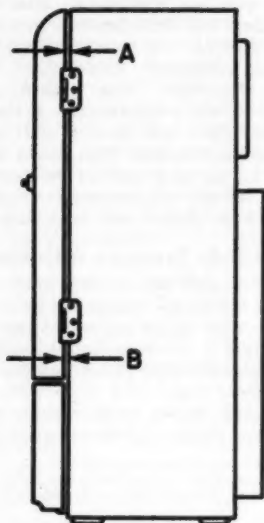

Fig. 3
d. Repeat with bottom hinge making sure door is parallel with cabinet by measuring accurately the distance between door and cabinet above top hinge and below bottom hinge. Use a rule with a right angle tab at the end to insert under gasket so you can get a true measurement. A flexible 6 foot rule which rolls into a small case is good. See Fig. 3—A and B should be equal.